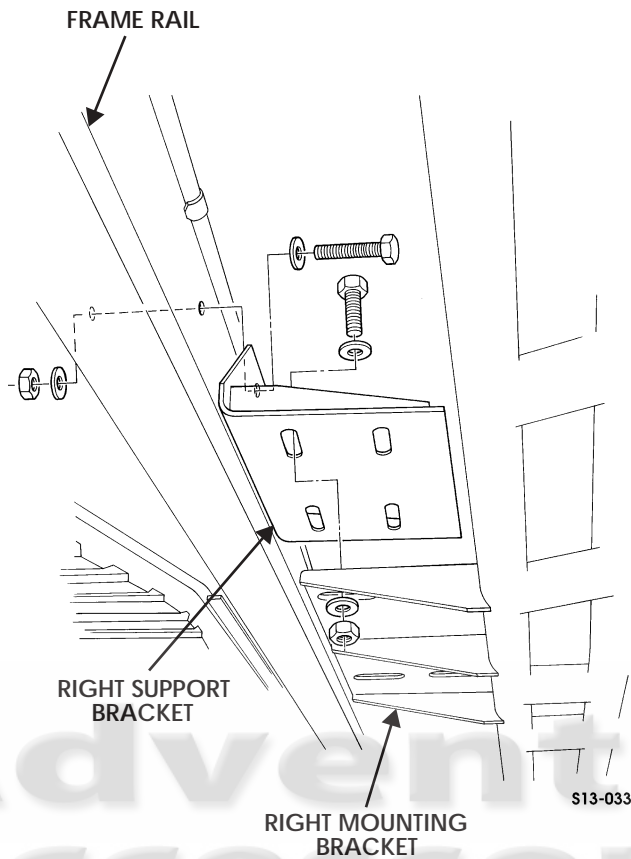

Figure 13-37: Right Support Bracket
4. Remove locknut, washer, capscrew, and washer securing right support bracket to frame rail. Discard locknut (Figure 13-37).
2. Install right support bracket on right mounting bracket with four washers, capscrews, washers, and locknuts. Do not tighten locknuts (Figure 13-37).